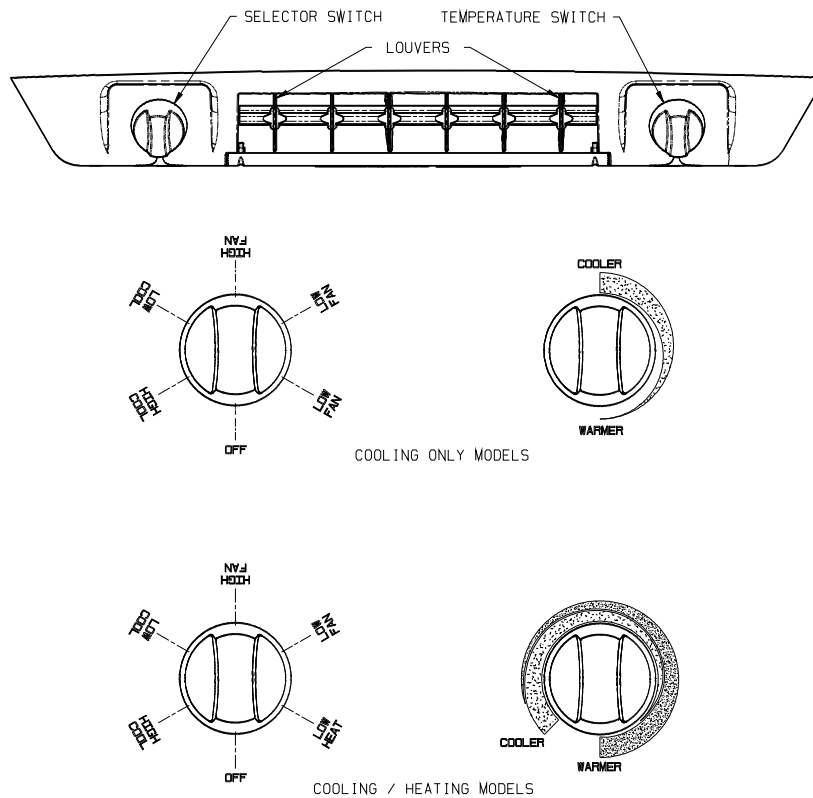

FIGURE 1
A. The Selector Switch – The selector switch determines which mode of operation the air conditioner will be in. By rotating the selector switch, the operator can obtain any system function desired. System functions vary depending upon options of both the roof top unit and ceiling assembly. Figure 1 shows selector switch location and lists all available functions by model.
For “Heat/Cool” models, the thermostat also controls the “ON” and “OFF” temperature settings of the heater assembly (See Figure 1).
I. For Cooling (Refer to Figure 1, page 3).